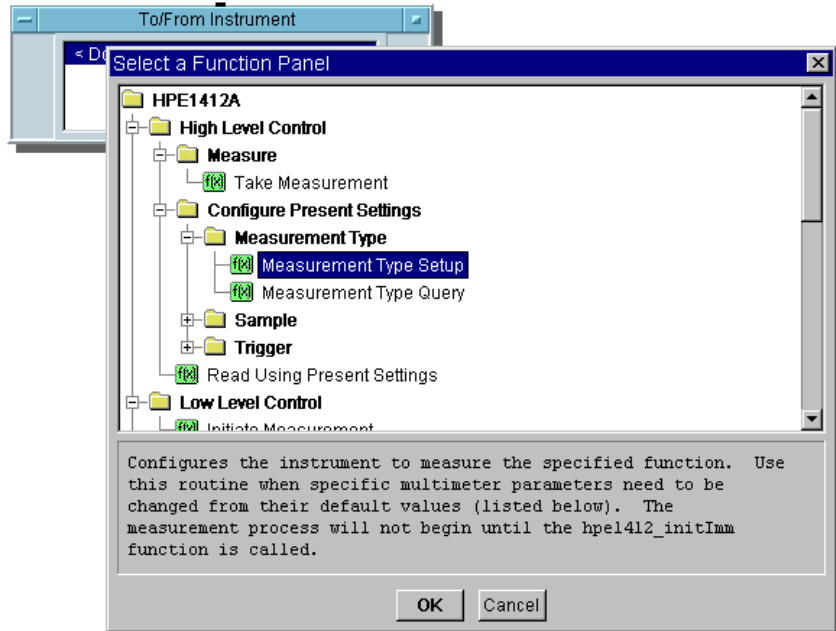
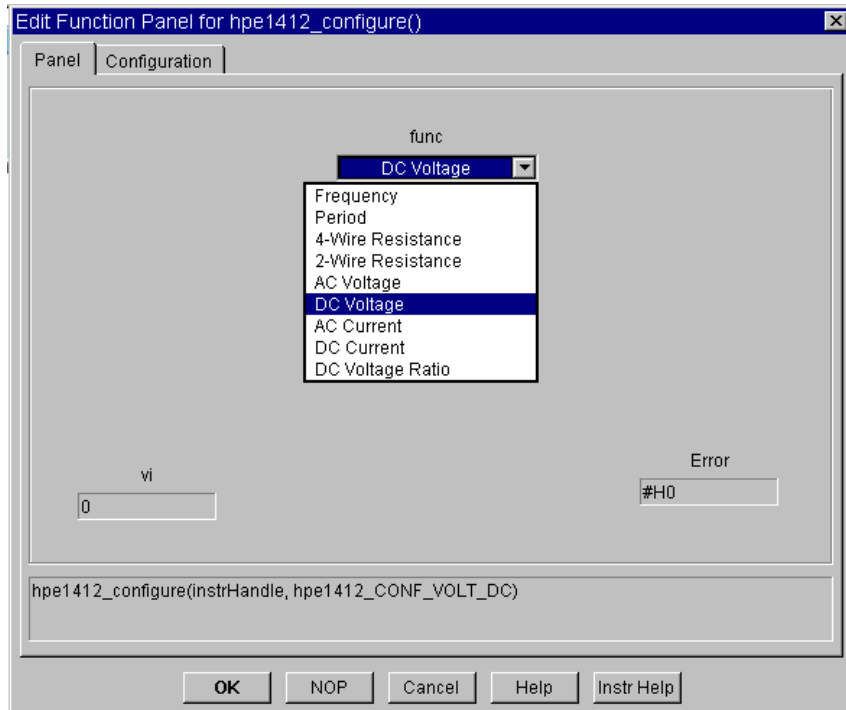

Figure 3-32. Selecting a Function for a VXIplug&play Driver
Figure 3-33. The HPE1412 Edit Function Panel
6. Double-click on the transaction bar labeled <Double-click to Add Function>, and Select a Function Panel is displayed as shown in Figure 3-32. Figure 3-33 shows the hierarchy of functions in the function panel. Notice that Help for the item selected is displayed in the dialog box.
7. Click `Configure Present Settings` ⇒ `Measurement Type` ⇒ `Measurement Type Setup`. The `Edit Function Panel` is displayed. Under `func`, click to display the drop-down list. Select the default `DC Voltage`, as shown in Figure 3-33.